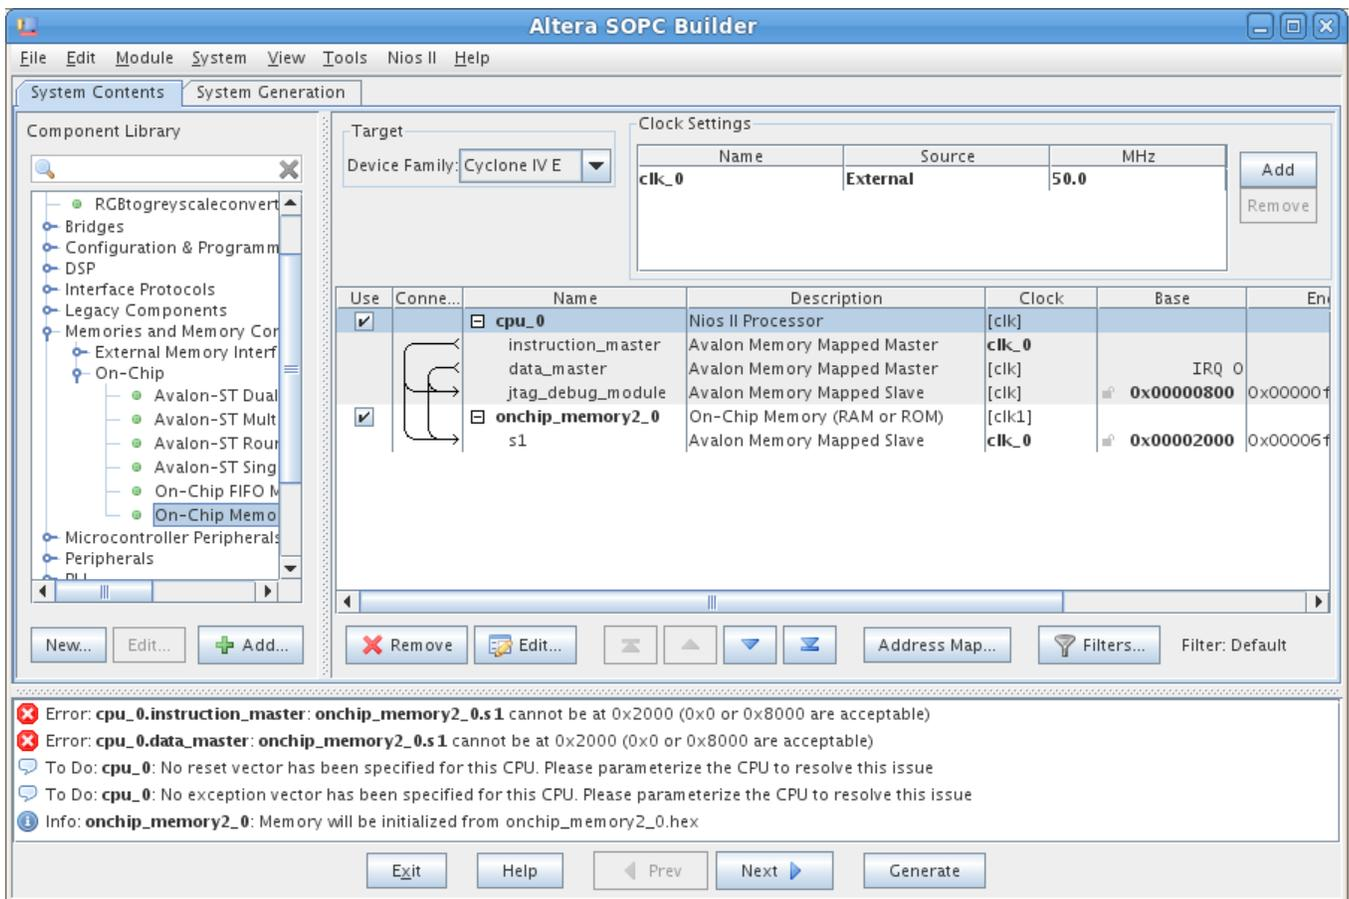

Figure 10. Including the on-chip Memory
- Click Finish, which returns to the System Contents tab as indicated in Figure 10